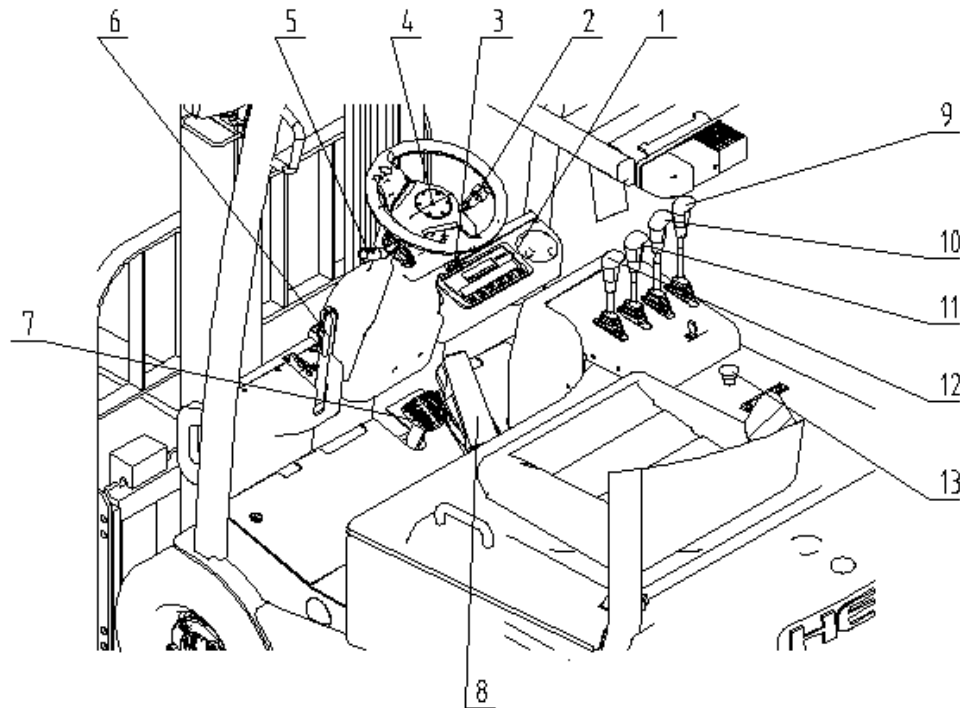

Fig. 1-1 Arrangement of the operation levers
1.4.1 Read the manual carefully to get familiar with the instruments, operating levers (Fig.1-1), construction and functions of the forklift before driving. The drivers must have license.